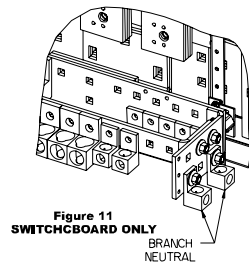

Figure 11
12. Reference fig. 11 - Installing the Branch neutral lug (item 23) in a Switchboard. The branch Neutral is located at the bottom of the "Z-rails", or mirrored at the top depending upon the feed cable location. Two (2) different Neutral lug assemblies are included in the kit, be sure to install the type pictured below. The Neutral lug assemblies can be mounted, as shown, on any available hole of the Branch neutral depending on the cable feed location. Torque all hardware as specified on the rear of the deadfront.